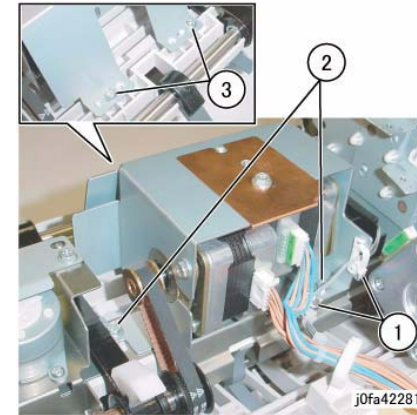

Figure 4 Removing Screws
10. Remove the screws securing the Eject/Set Clamp Motor Assembly (Figure 4):